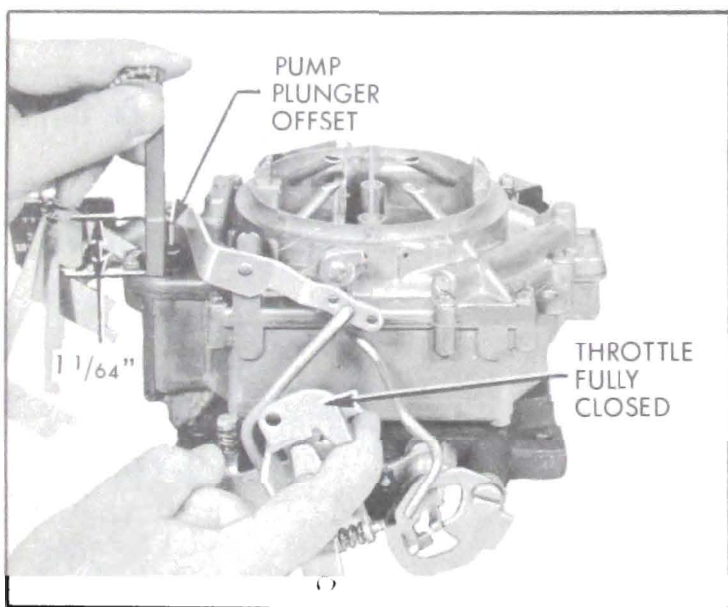

Figure 3-100—Checking Pump Plunger Adjustment
25. Push fast idle cam to full down position and back out throttle stop screw until primary throttle valves can be fully closed. With throttle held closed and pump rod in center hole of lever, measure vertically from under side of pump plunger offset to air horn casting. See figure 3-100. Measurement should be $1\frac{1}{64}$ ".